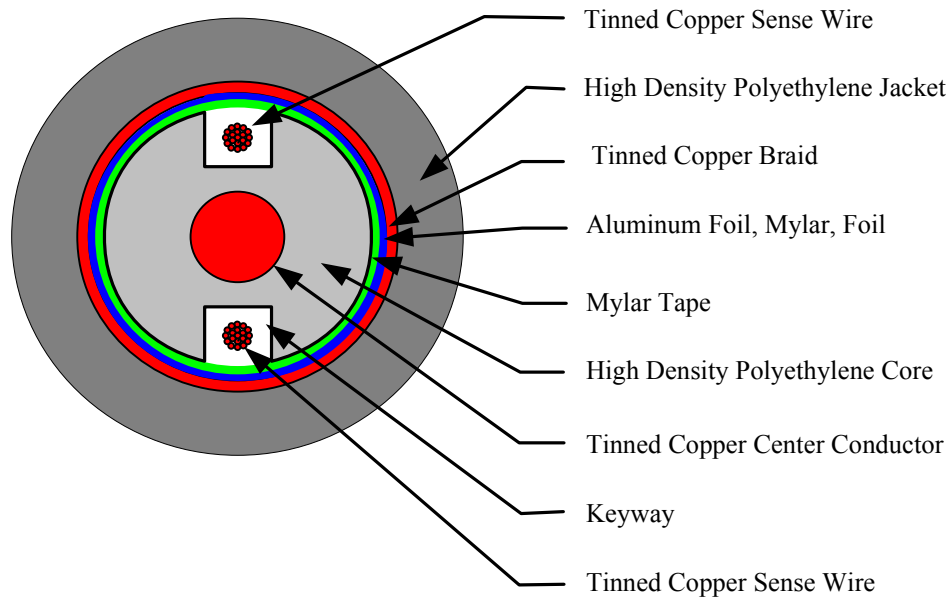

Figure 2.1 - MC115 Cable Cross Section
The cross section of the MC115 MicroPoint cable is shown in Figure 2.1.
PM II as shown in Figure 2-1. It mounts in the enclosure with six (6) screws. The LU II includes a circuit board and enclosure. The enclosure mounts directly on the fence fabric with 2 “J” bolts.